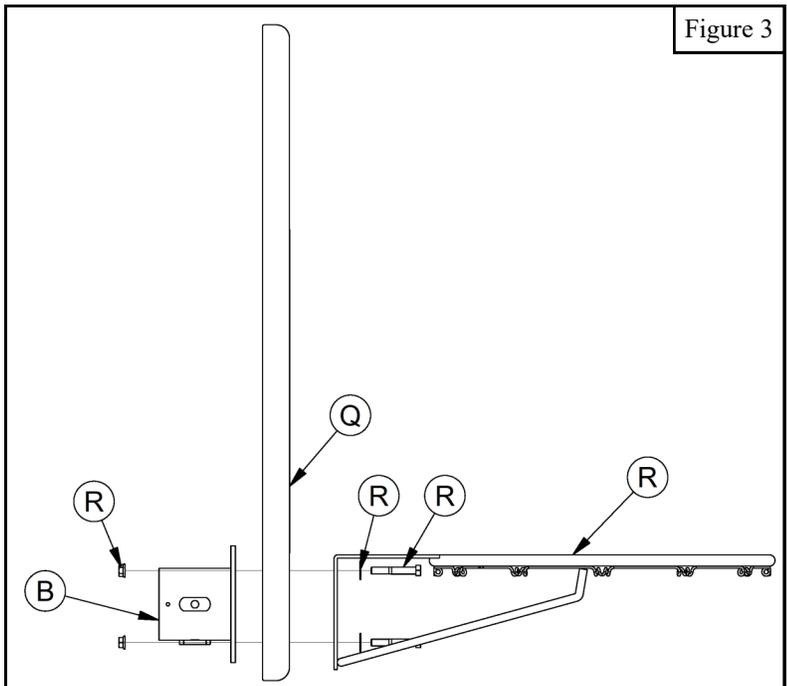

Figure 3
- Attach the *Rim* (R) and *Backboard* (Q) to the *Backboard Mounting Bracket* (B) using the hardware provided with the *Rim* (R). See Figure 3.